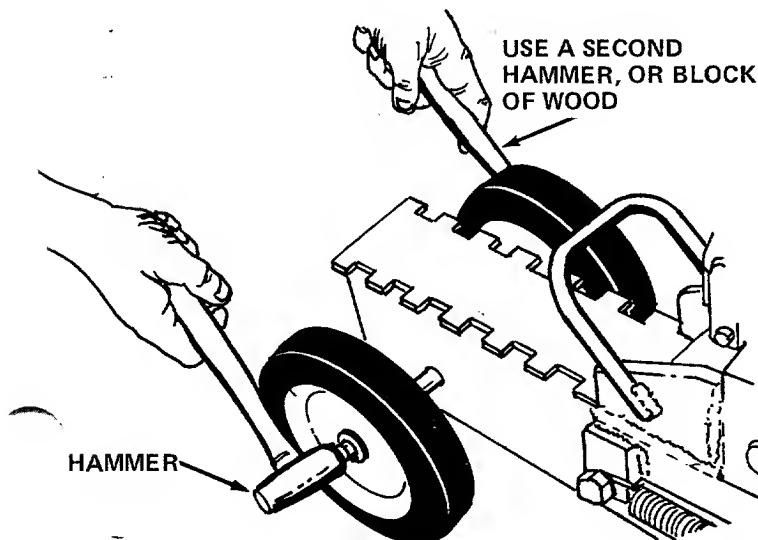

FIGURE 3
4. Next, place wheels (H) over each end of axle. See figure 3.